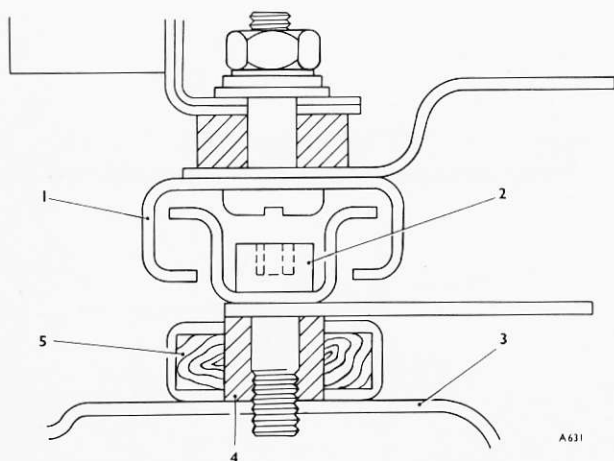

Fig. S52 Method of fitting bushes in the hardwood blocks for securing the front seat slides to the floor — early S1 cars
- (ii) Open out the holes in the existing hardboard mounting to $\frac{1}{2}$ in. (12.7 mm.) dia., then press mild steel bushes into the holes, so that when the floor slides are tightened down they bear on the bushes instead of the leather-trimmed hardwood (see Fig. S52).